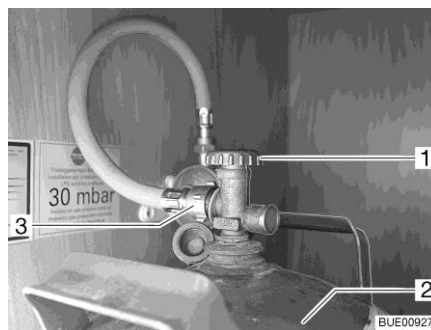

Fig. 186 Gas bottle compartment
- Close the regulator tap (Fig. 186,1) on the gas bottle (Fig. 186,2). Pay attention to the direction of the arrow.
- Unscrew the gas tube (Fig. 186,3) from the gas bottle.